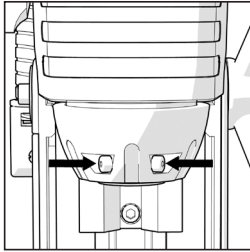
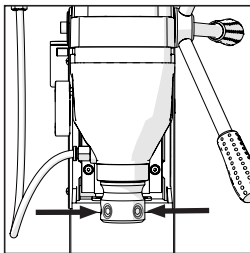

Fig. 8
Fig. 9
- Check that the cutter securing grub screws located in the end of the spindle are not protruding into the spindle bore. (S42MAG - **Fig.8.**) (S28MAG - **Fig.9)**